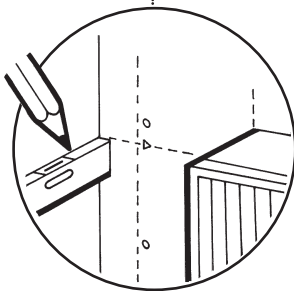

Fig. 40
6. Extend the horizontal centre line around the corner for approximately 300mm (12 in). Ensure that the line remains horizontal by checking with a spirit level (Fig. 40).